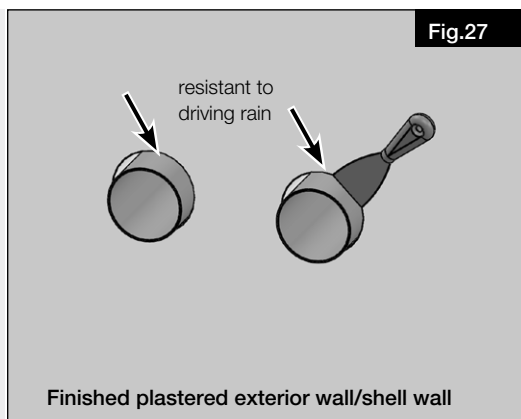

Fig.27
1. The wall installation sleeves must be cut with a 30 mm projection from the finished plastered exterior wall when using the facade panel KWL 70 FB..., or from the structural wall when using the soffit element KWL 70 LE-RP (see Fig.27).
2. **Applies only when using the facade panel KWL 70 FB...** : The annular gap around the wall installation sleeves on the exterior wall must be made resistant to driving rain (see Fig.27).